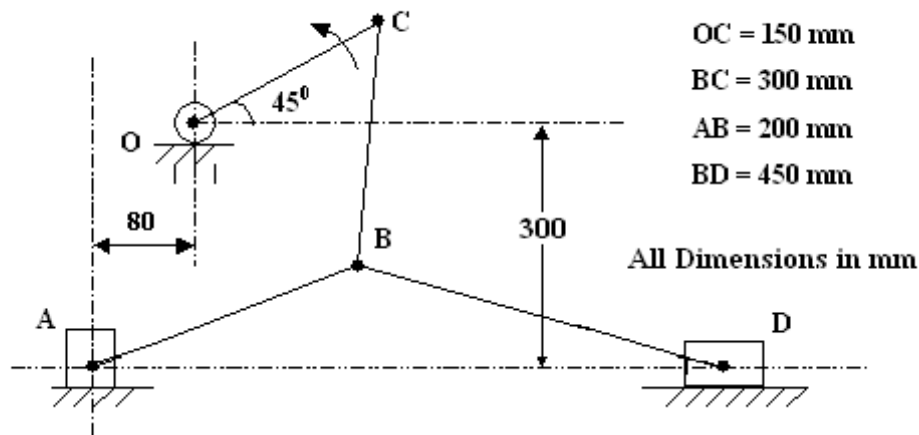

Figure 1:
3. In a mechanism shown in Figure 1, D is constrained, to move on a horizontal path. Find, for the given configuration the velocity and acceleration of D and the angular velocity and angular acceleration of BD when OC is rotating in a counter clockwise direction at a speed of 210 r.p.m.